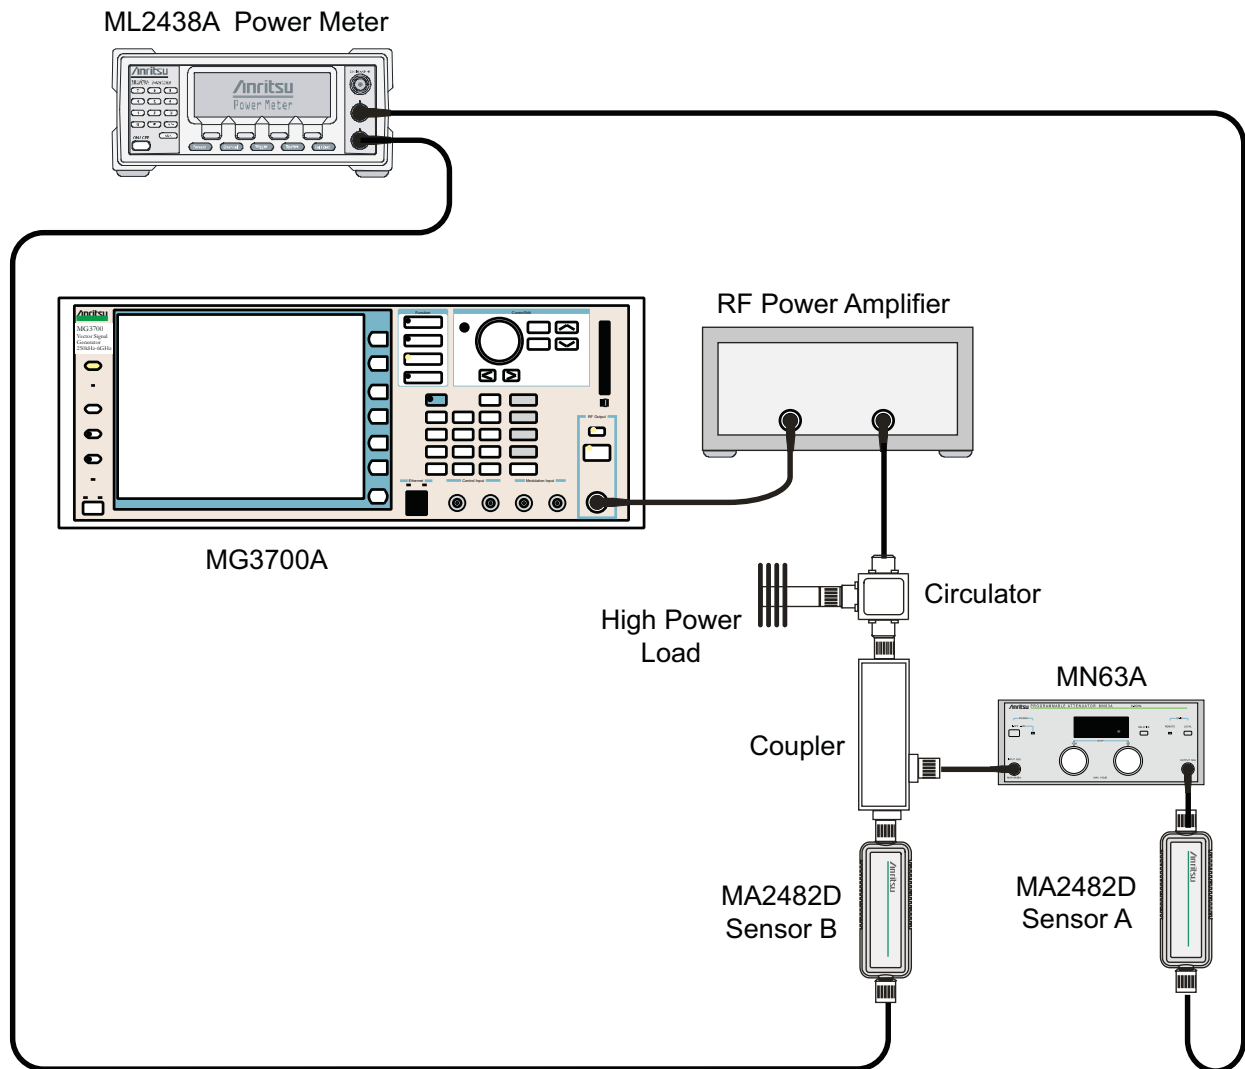

Figure 5-3. WCDMA Signal Analyzer Option Verification (Setup 1)
1. Connect the MG3700A, RF power amplifier, attenuator, power meter, and sensors as shown in Figure 5-3.
4. Press the **On/Off** key to turn on the MT822xB and wait until the measurement display appears then press the **Shift** key and press the **Mode** (9) key to activate the mode selection menu.
6. Press the **Shift** key, the **Preset** (1) key, and then the **Preset** soft key.